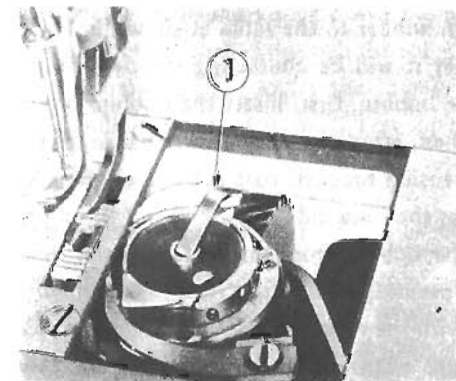

Fig. 7
#### 7. How to remove the bobbin (Fig. 7)
Pull out the right bed slide, raise the bobbin case latch (Fig. 7 ①) with your fingers and take out the bobbin.